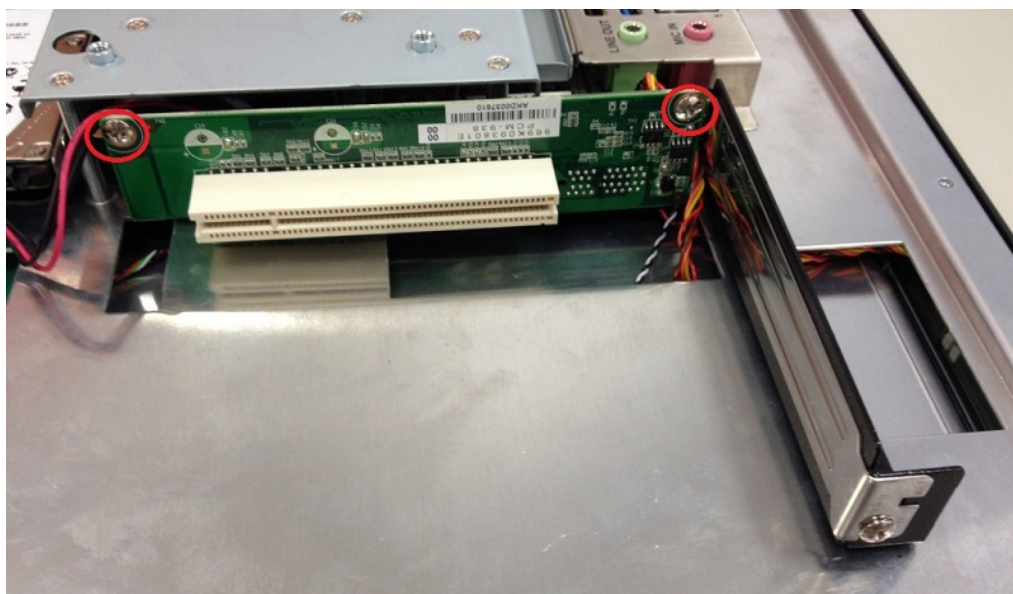

Figure 2.28
2. Insert the riser card into the slot, and secure in place using two screws (see Fig. 2.28). The default riser card is PCIe-to-PCI. However, a PCIe-to-PCIe card is provided in the accessory box, allowing users to select the appropriate card according to their usage requirements.